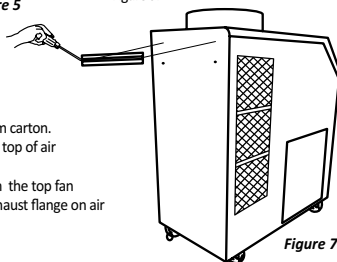

Figure 7
3. Use screws (enclosed inside of box with a handle) to install the handle as shown in Figure 7.